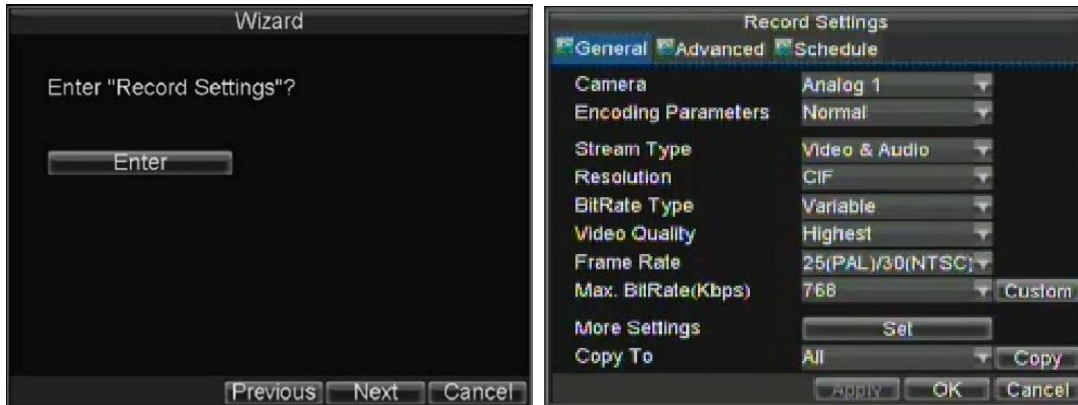

Figure 5. Record Settings
9. Click the Next button. This will take you to the **Record Settings** window, as shown in Figure 5.